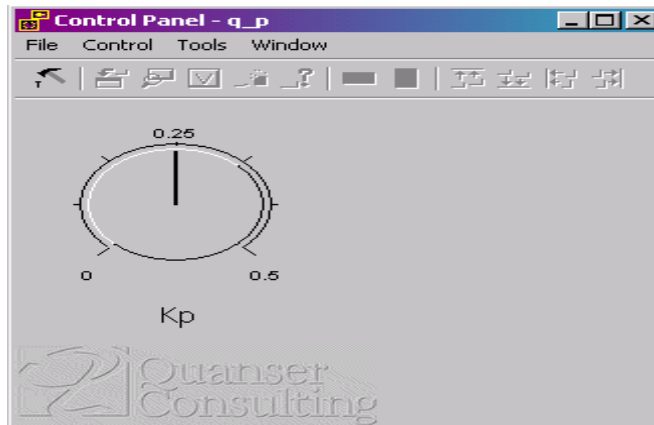

Figure 92 WinCon Control Panel
5. With most controllers it is necessary to *tune* the parameters to achieve the desired response. WinCon facilitates this need by allowing parameters to be changed via the Simulink diagram, or through WinCon Control Panels. From your WinCon Server, select *Window | Control Panel*. A new control panel window will appear. From the menu, select *Control | Insert Control*. For this application, a knob control will suffice. You will now be prompted to associate a parameter with the knob control. Select *Proportional Gain | Gain (1,1)*. This control is now associated with the proportional gain block in your model. From the menu, select *Control | Properties*, and set the maximum to a value of 0.5 while leaving the minimum at 0. Finally, de-select *Window | Design Mode*. Your window should now look similar to Figure 92 below: